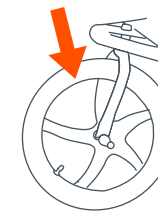

Fig. 21
21) • Lift the front wheel off of the ground and sharply strike the top of the tire (Fig. 21). The wheel should not be loose or come off.